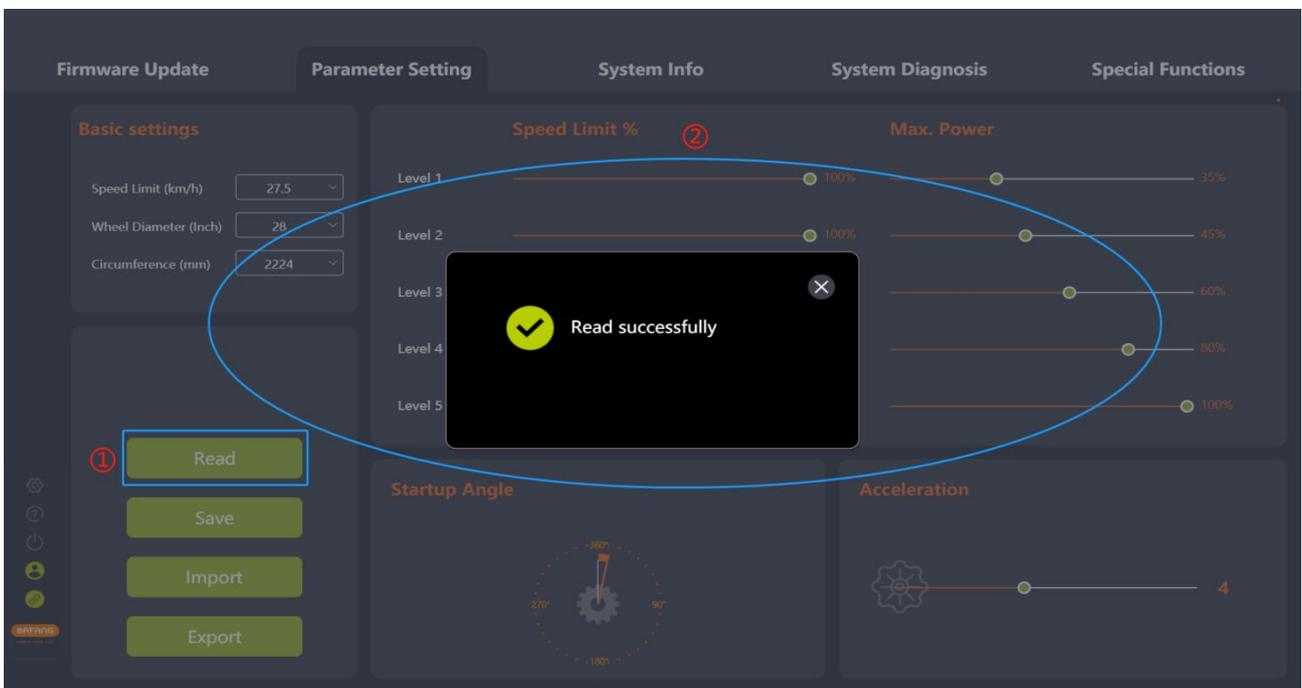

Fig. 5-4 Read
- (1) Check whether the BESST Tool is well connected to the controller, and click "Read".
- (2) Each parameter in the interface is displayed as a number and slider (Fig.5-4).